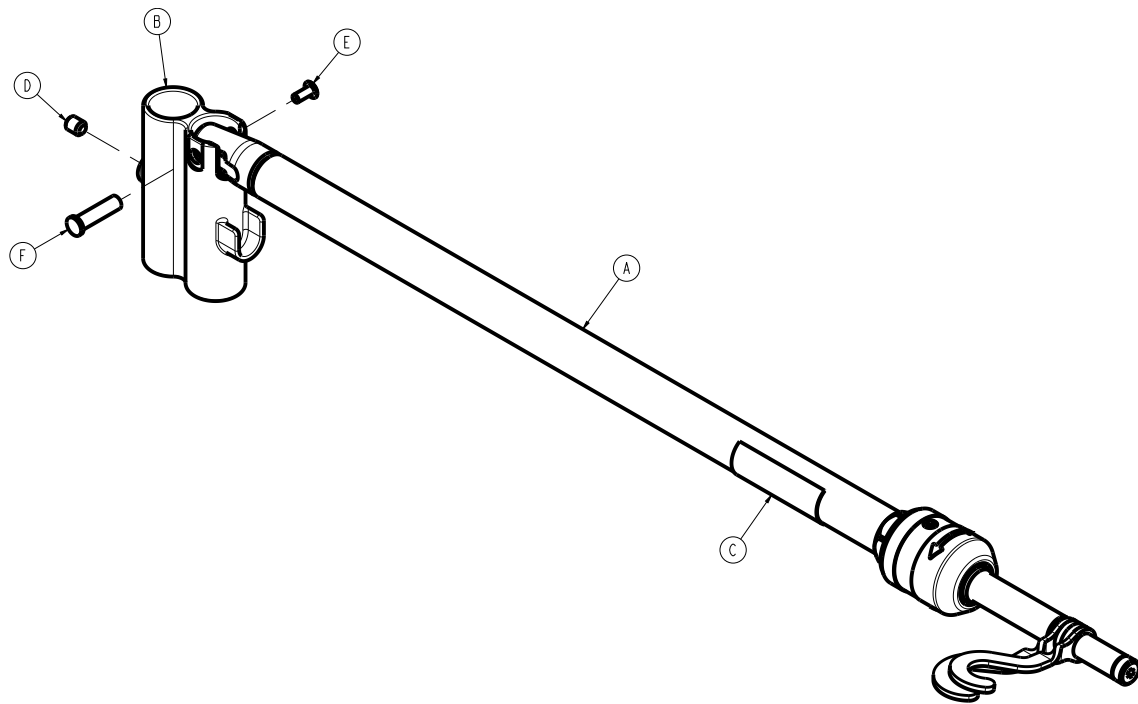

Figure 76 – Attaching the dual IV pole, top
9. Using a 5/32" hex wrench, tighten the set screw (D) to secure the top IV receptacle (B) to the bed IV post (Figure 76).